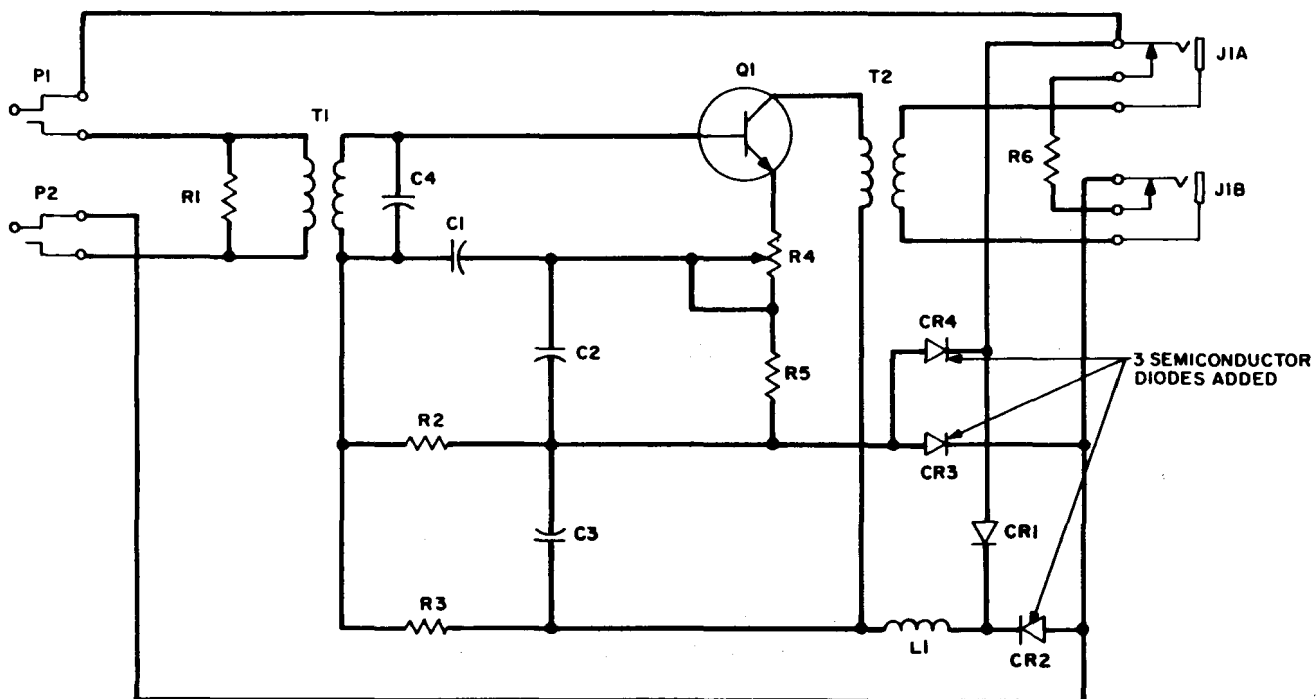

Fig. 5 - Modified Circuit for Nonpolarized Use
1.01 This addendum supplements the section and replaces Fig. 5. Fig. 5A is added to maintain correct polarity where current reversal is made by central office or PBX.
**3.04** In those cases where it is necessary to use this amplifier under conditions as in 3.03, where talking battery is reversed, during a call, or from call-to-call, provision has been made to modify the amplifier to function under these conditions. A full wave rectifier bridge consisting of three semiconductor diodes is inserted in the power leads as shown in Fig. 5. When amplifiers of this type are required, proper requests for it should be made through the regular routine.